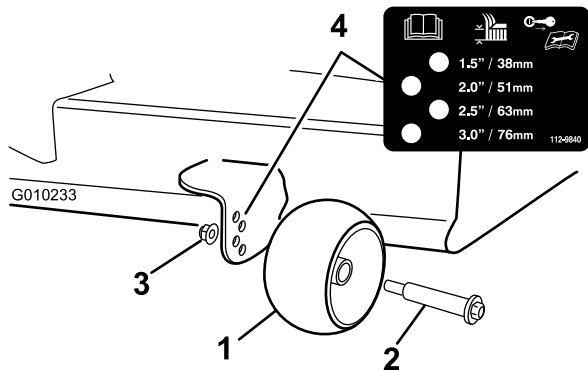

Figure 29
3. Adjust the anti-scalp rollers as shown in Figure 29 to match the closest height-of-cut position.